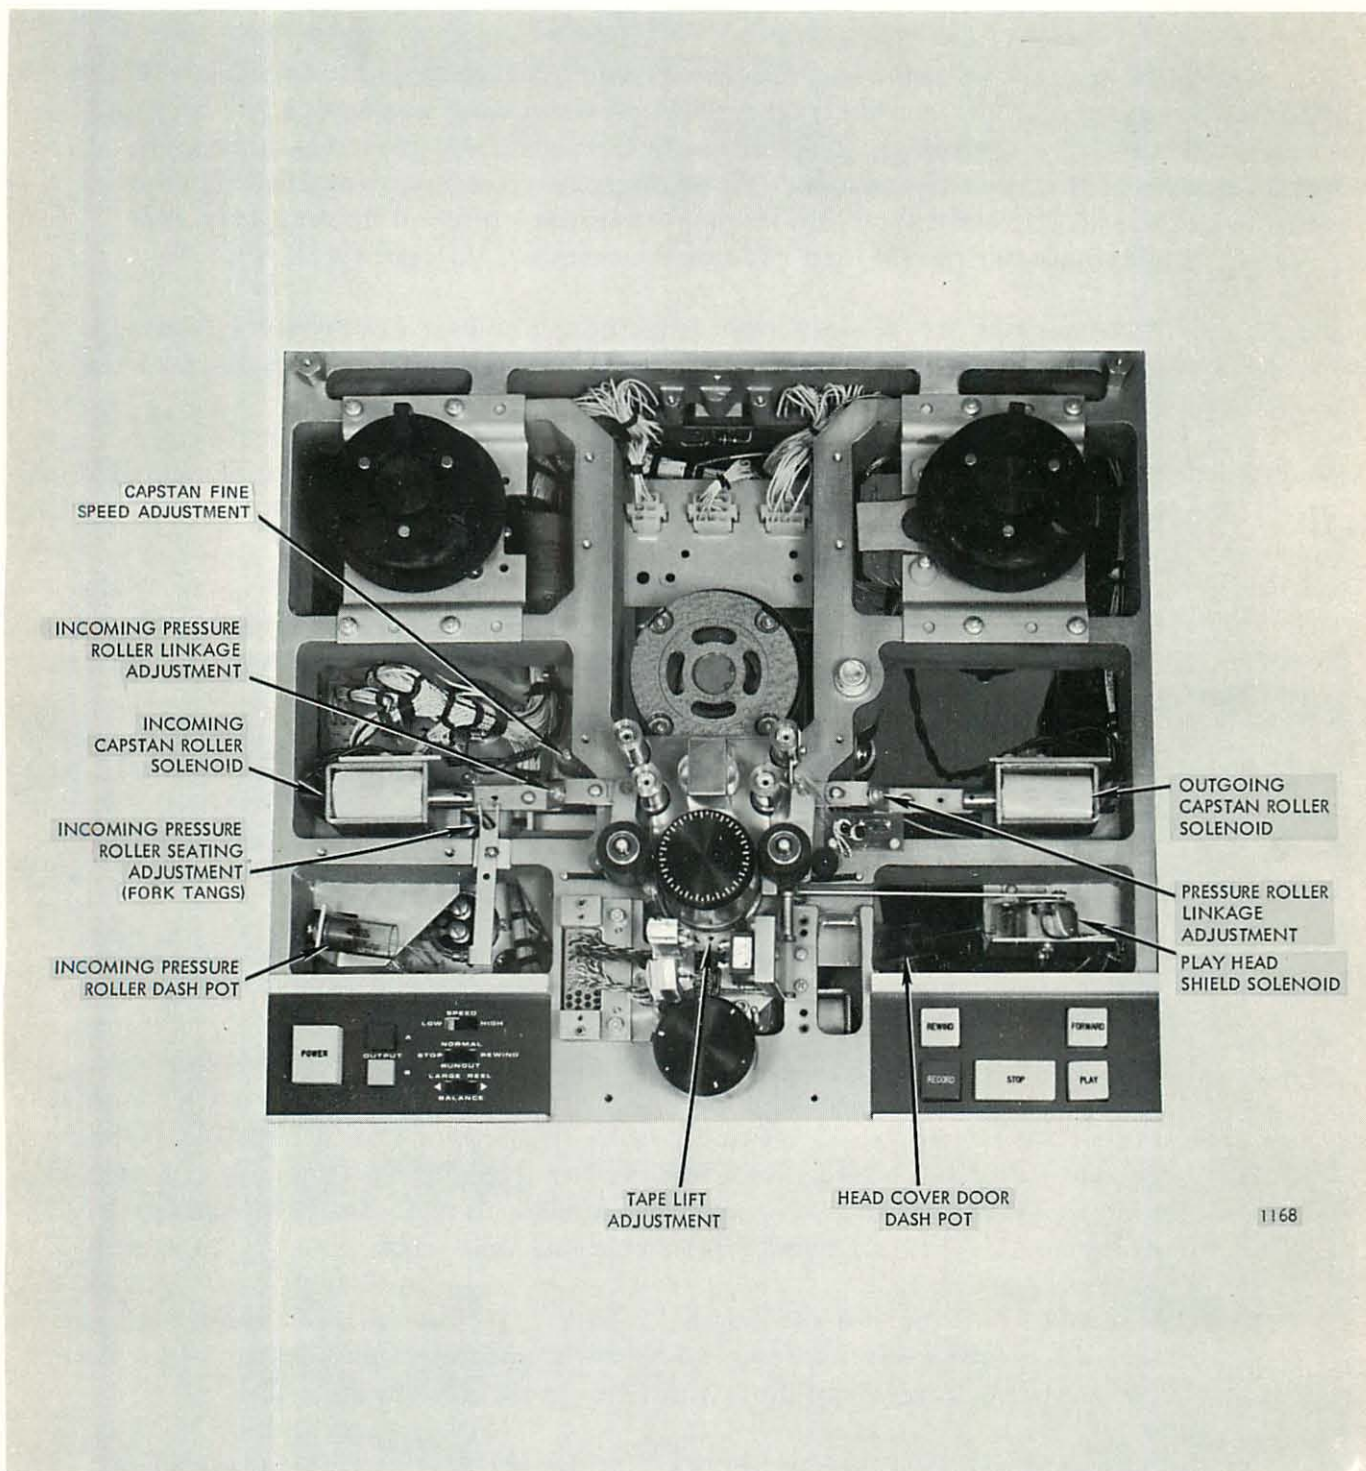

Figure 23. Tape Transport Adjustments, Top View
The tape transport has been factory aligned for peak performance. With use it will occasionally be necessary to undertake routine inspection of the machine and check certain adjustments. The following information provides a procedure for thorough check of the tape transport. After the user has followed this procedure a few times, it may be found that certain steps may be checked at less frequent intervals. Location of transport adjustments is shown in figures 23 and 24.
8. Set the capstan motor fine-speed screw (figure 23) so that it does not depress the foot lever from its highest position.
30. Press the PLAY button. The head cover door should close smoothly within 3/4 second. The tape should be driven by the capstan and wound up by the takeup reel. In starting, it should accelerate smoothly without snapping from the supply reel or throwing a loose loop within the closed loop area. When properly adjusted, the incoming capstan pressure roller should move quickly to contact the tape and then slowly seat under the control of the dashpot, thereby gently increasing the tape pressure on the capstan and giving it a gentle acceleration. Generally, the dashpot must be adjusted to maximum damping. The fork tangs (as shown in figure 23) may be bent slightly, but carefully, to provide proper puck operation. The outgoing capstan pressure idler operates only after the tape is up to speed.